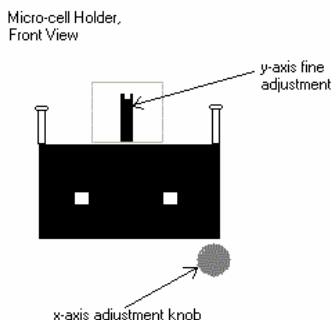

Figure-18 Micro-Cuvette Holder Front View
Step 10 You will need a basic screwdriver for the y-axis adjustment. The adjustment screw is located in the front-center of the holder (Figure-18).